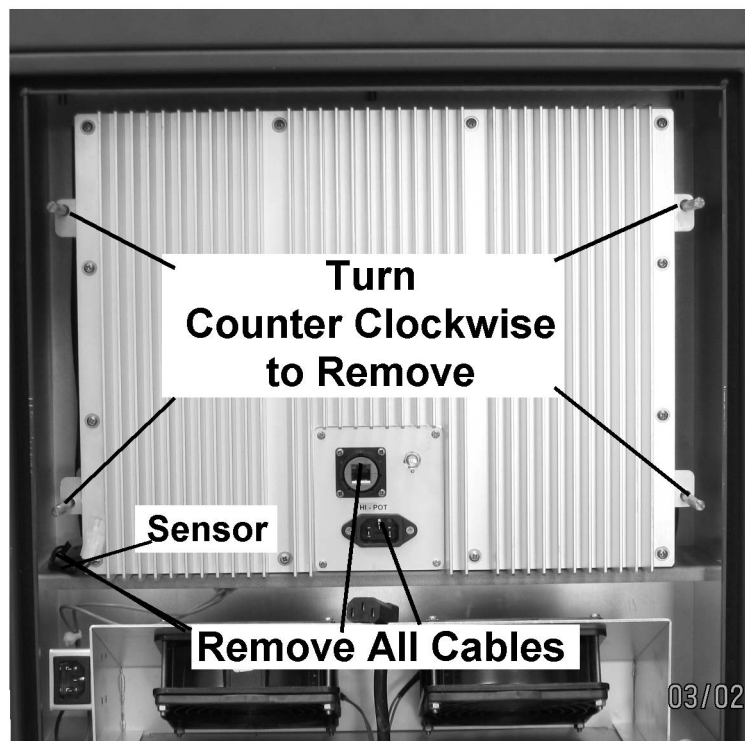

Figure 2-3: Removing the RDU from the Pedestal
- To remove the Remote Display Unit, see Figure 2-3, below.